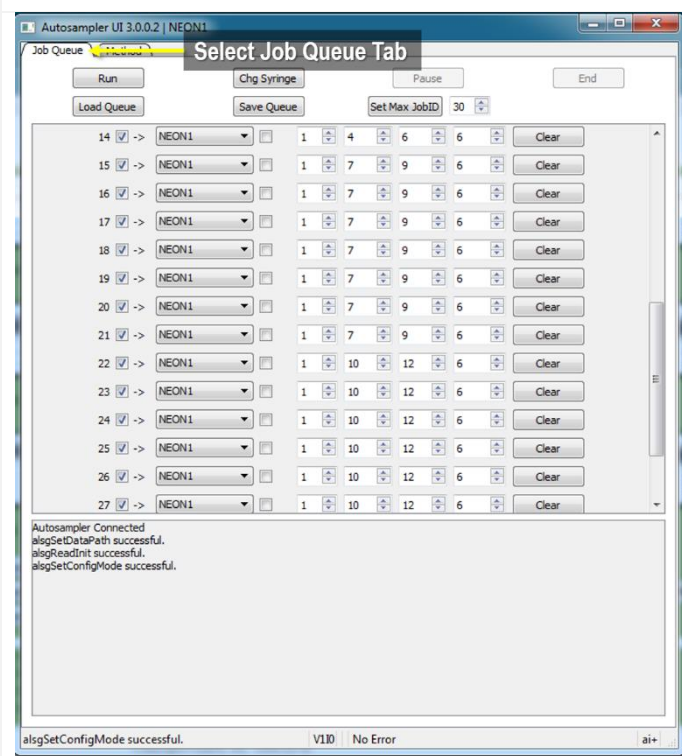

Figure 176. Return To Job Queue Tab.
STEP 17 | Return to the Job Queue Tab (**Figure 176**).